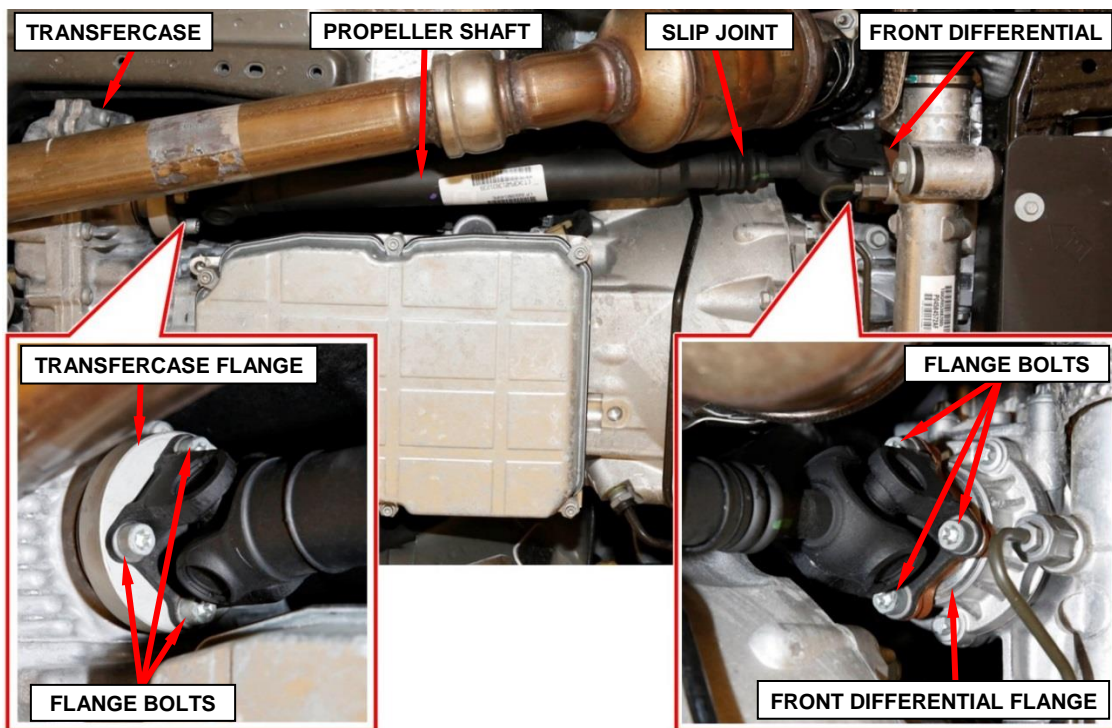

Figure 3 – Front Propeller Shaft Bolts
4. Remove and discard four front propeller shaft to front differential flange bolts (Figure 3).
5. Remove and discard four front propeller shaft to transfer case flange bolts (Figure 3).
8. Install the **new** propeller shaft bolts only by hand using no tools to thread in or tighten the bolts (Figure 3).
9. Tighten all eight NEW propeller shaft bolts to 61 N·m (45 ft. lbs.) (Figure 3).